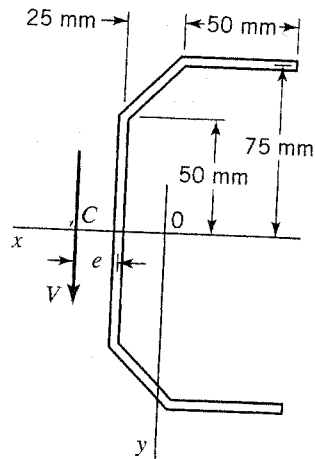

FIGURE P8.12
8.12. A 4-mm-thick plate of steel is formed into the cross section shown in Figure P8.12. Locate the shear center for the cross section.